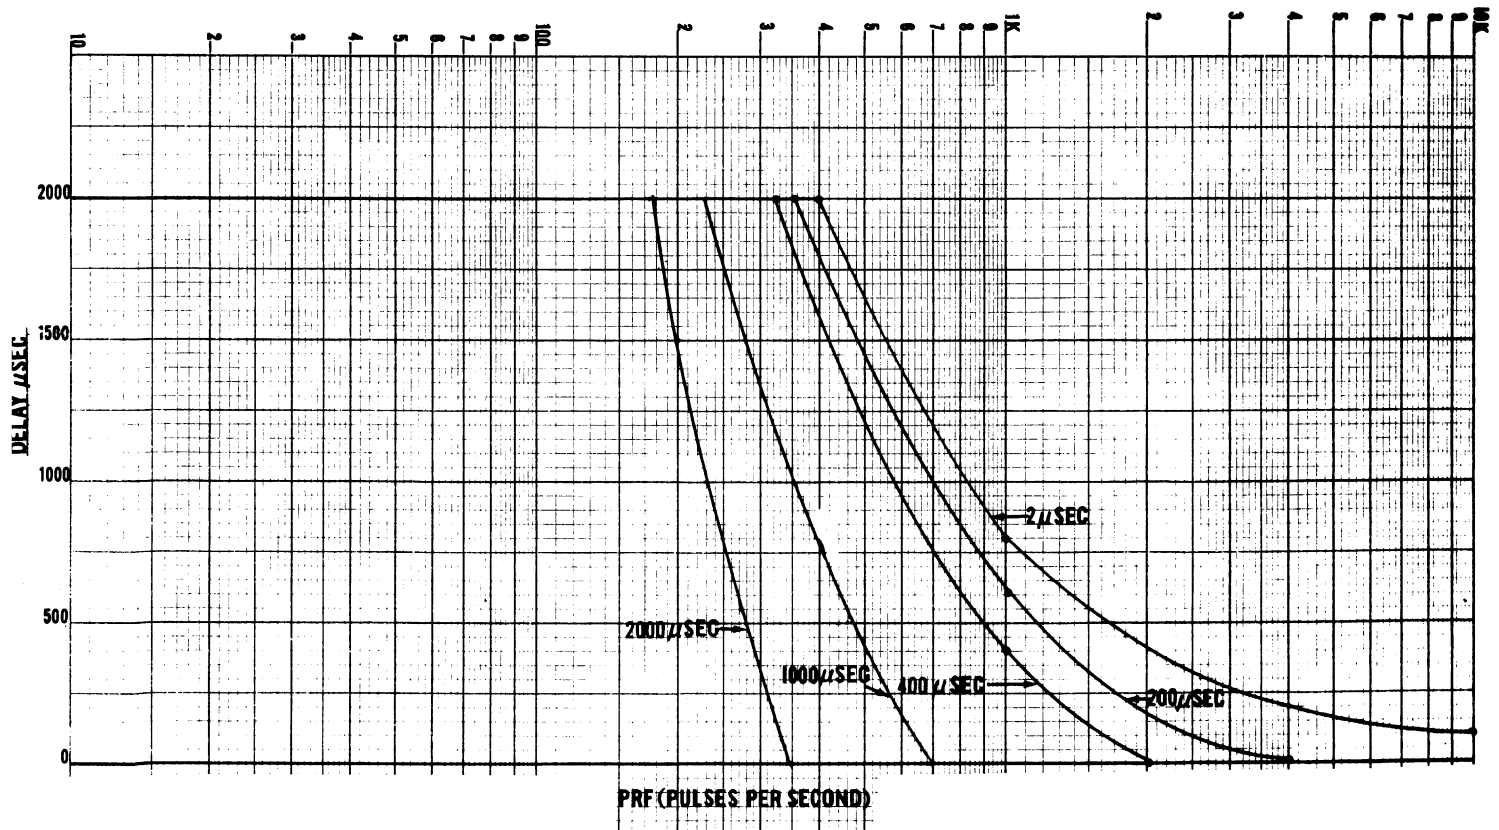

Figure 2-4. Maximum Pulse Delay Versus Repetition Rate
- f. DUTY CYCLE – DELAY LIMITATIONS. Figure 2-4 includes the pulse width to 2000 μ sec. The regions for stable operation are below the curves.
For example, at 2.0 μsec width and pulse repetition rate of 1000 Hz, the maximum stable delay would be 800 μsec . The graph in figure 2-4 is based on the following equation:
g. The front panel of the Model 1020A has a caution notice to the use of the RATE X1 multiplier when in the X200 and X1000 PULSE WIDTH position. The caution notice is to provide a guideline for stable pulsing at any selected pulse width and delay combination. Other stable combinations of width, rate, and delay are available. These are the parameters falling below the graph line in figure 2-4. To illustrate, if the pulse width is 400 μsec and the delay 200 μsec , stable operation can be maintained up to 1166 pps, as shown in figure 2-4.
If the controls are set beyond limits of the curve, figure 2-4 (Operations Settings above the curves), use of an external scope is recommended to be sure of stable operation. There cannot be stable pulsing beyond the limits of Equation No. 2.
Do not exceed duty cycle. Refer to figure 2-4.